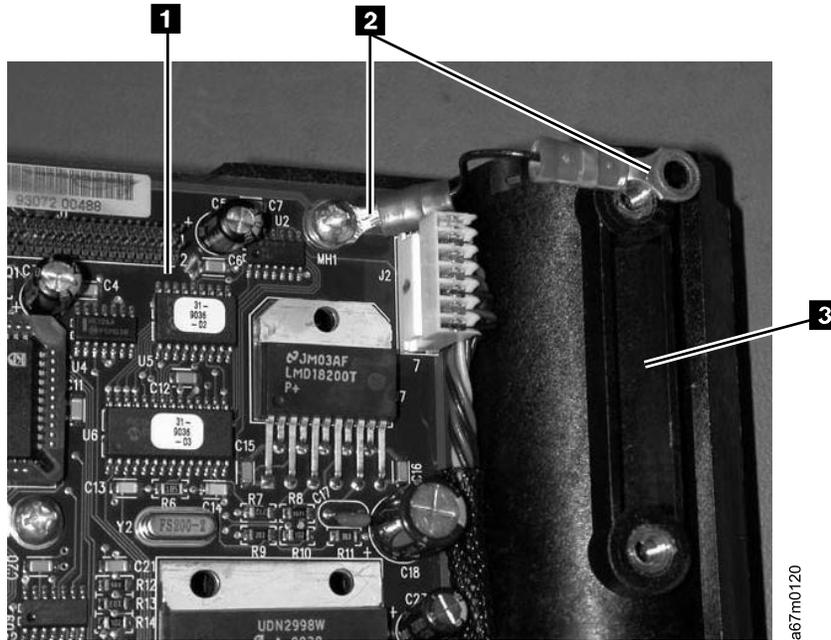

Figure 7-6. Proper orientation of picker control PCBA to picker support ground wire connector
- | the ground wire connectors is shown in Figure 7-6 on page 7-8.